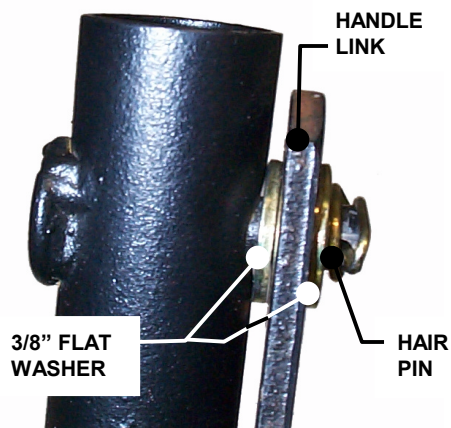

FIGURE 1.9
C. Insert stud into center hole of right Handle Link. Add another 3/8" flat washer over stud and secure with hair pin. See Figure 1.9.